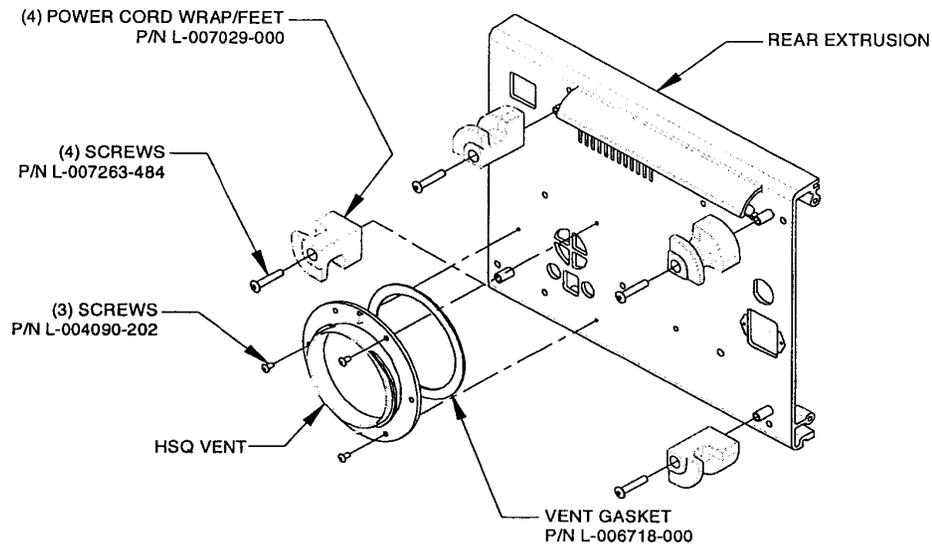

FIGURE 4-32.
1. Use a 5/64-in hex driver to remove the 3 screws that secure the HSQ vent to the rear extrusion. See Figure 4-32.
2. Use a 1/8-in hex driver to remove the 4 screws that secure the 4 power cord wrap feet to the rear extrusion. See Figure 4-32.
1. Use a Makita battery-powered torque driver set at 4 with the speed range set at “L” (or equivalent) with an 1/8-in hex bit to secure the 4 power cord wrap feet (P/N L-007029-000). Secure the cord wrap feet onto the threaded spacers on the rear extrusion with 4, 10-32 x 1-in (25.4 mm) screws (P/N L-007263-484). See Figure 4-32.
3. Align the holes on the vent housing to the holes on the rear extrusion. Position the tabs on the vent housing at the top and the bottom. See Figure 4-32.
4. Use a torque driver set at 5 in-lbs with a 5/64-in hex bit to secure the HSQ vent to the rear extrusion with 3, 6-32 x 1/4-in (6.35 mm) screws (P/N L-004090-202). See Figure 4-32.